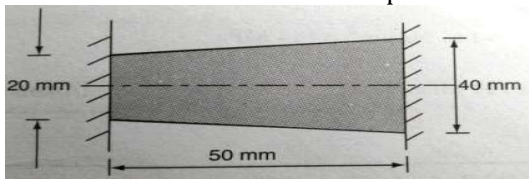

Fig. 2
- (b) A uniformly tapered rod, as shown in Fig. 2, is held between two rigid supports at room temperature. The rod is made of steel with $E = 200 \text{ GPa}$ and coefficient of thermal expansion is $12 \times 10^{-6}/^\circ\text{C}$. Find out the maximum stress induced in the rod if temperature is raised by 30°C .